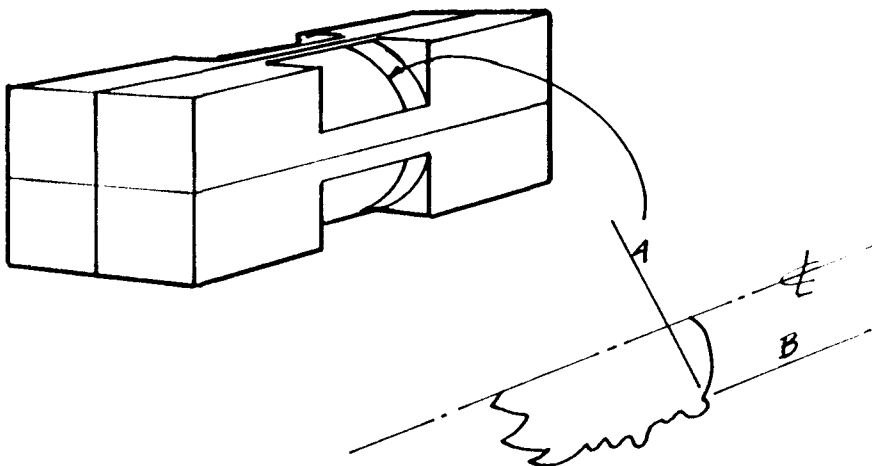

Figure 5
6. Mark the first prominent point from the top (figure 5). A = distance from top mark, B = depth of cut.